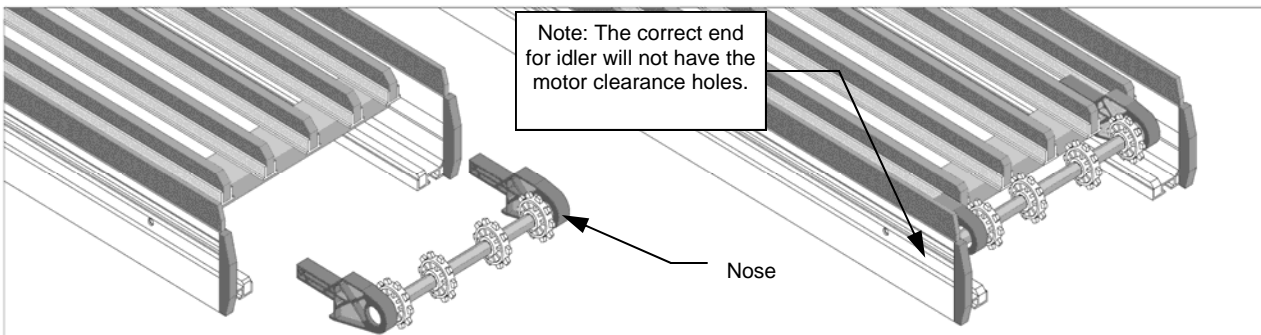

Figure 4
1. The Universal Drive Kit includes a fully assembled idler. The idler is mounted to the **entry** support bar of a continuous line of conveyor. (The term "**entry**" refers to the point which the belt will rotate from the underside of the conveyor frame to the surface where product is carried on top of the belt. See Figure 4.